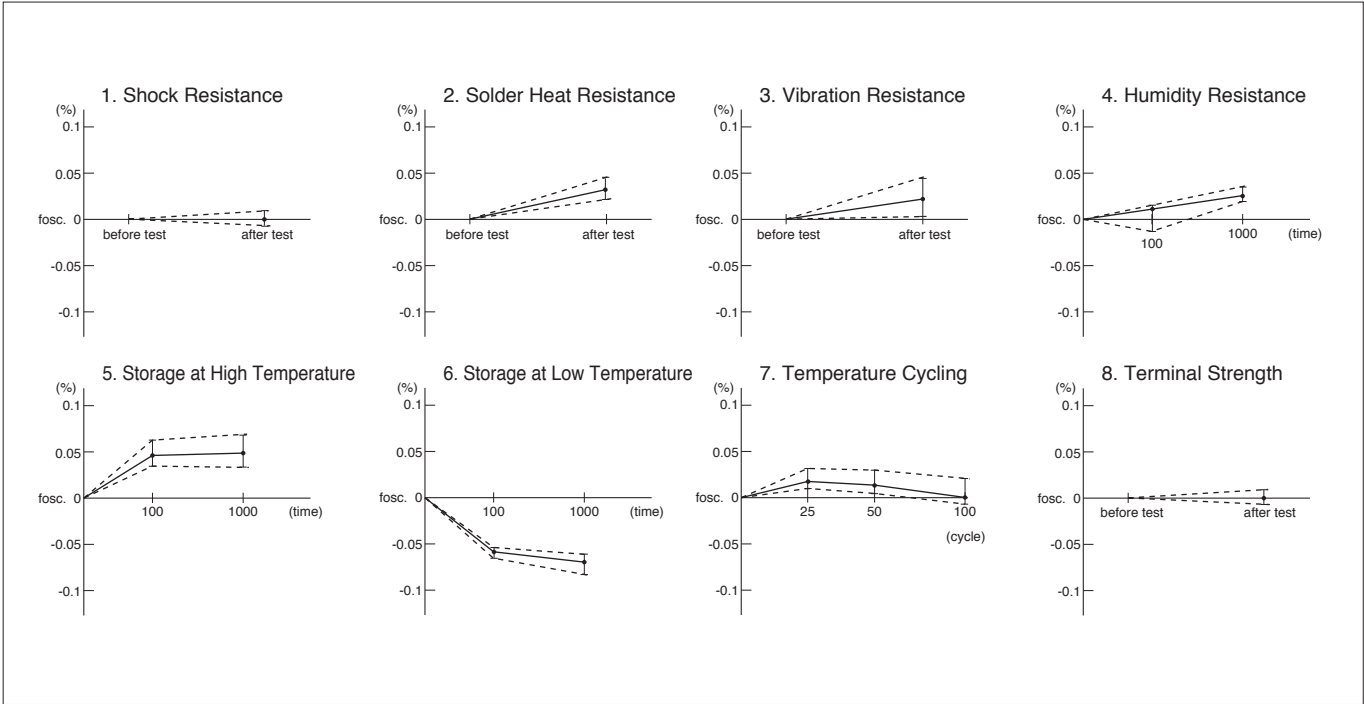
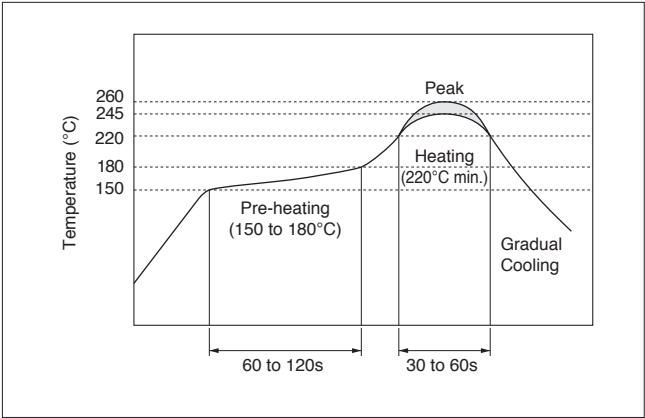

Fig. 3-2 General Changes of Oscillation Frequency in Each Reliability Test (CSTLS4M00G53-B0)
Fig. 3-3 Reflow Soldering Profile for MHz Band Chip CERALOCK®
Fig. 3-2 shows the changes of oscillation frequency in each test, the table on the next page shows the criteria after the tests, and Fig. 3-3 shows the reflow soldering profile.
2. Soldering Heat Resistance	Lead terminals are immersed up to 2.0 mm from the resonator's body in solder bath of <input type="text" value="c"/> , and then the resonator shall be measured after being placed in natural condition for 1 hour. ^{*1} Reflow profile show in Fig. 3-3 of heat stress is applied to the resonator, then the resonator shall be measured after being placed in natural condition for 1 hour. ^{*2}